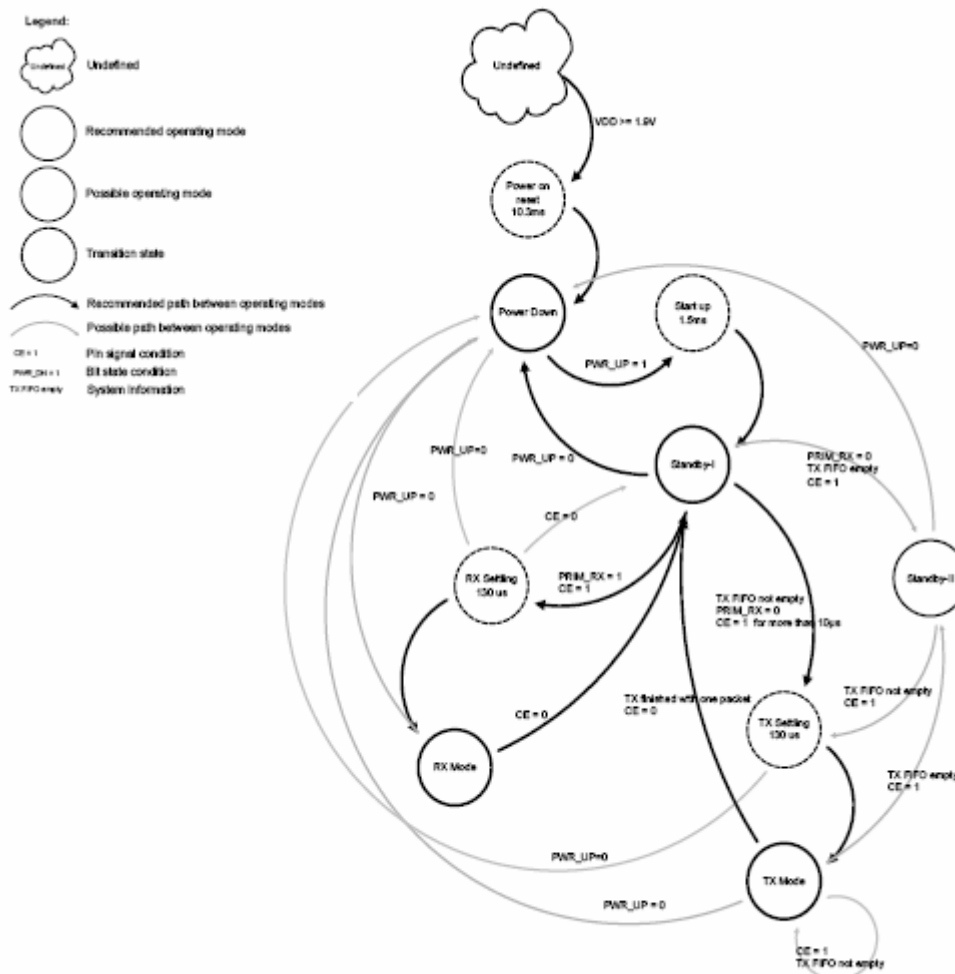

Figure 3. Radio control state diagram
The state diagram (Figure 3.) shows the modes the nRF24L01 can operate in and how they are accessed. The nRF24L01 is undefined until the VDD becomes 1.9V or higher. When this happens nRF24L01 enters the Power on reset state where it remains in reset until it enters the Power Down mode. Even when the nRF24L01 enters Power Down mode the MCU can control the chip through the SPI and the Chip Enable (CE) pin. Three types of states are used in the state diagram. “Recommended operating mode” is a state that is used during normal operation. “Possible operating mode” is a state that is allowed to use, but it is not used during normal operation. “Transition state” is a time limited state used during start up of the oscillator and settling of the PLL.